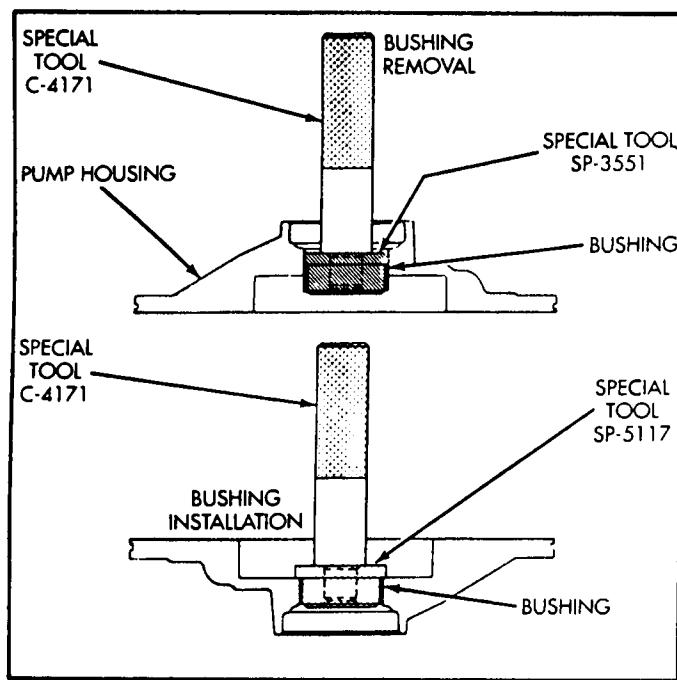

Figure 45
3. Install the new pump body bushing from the pump pocket side, as shown in Figure 45.
2. Remove the pump body bushing using the driver shown in Figure 45, driving the bushing out towards the pump pocket.